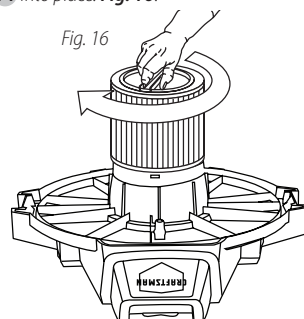

Fig. 16
35. Hold the tank cover with one hand, turn the handle on the filter retainer **15** clockwise to tighten, locking the filter **14** into place. **Fig. 16**.